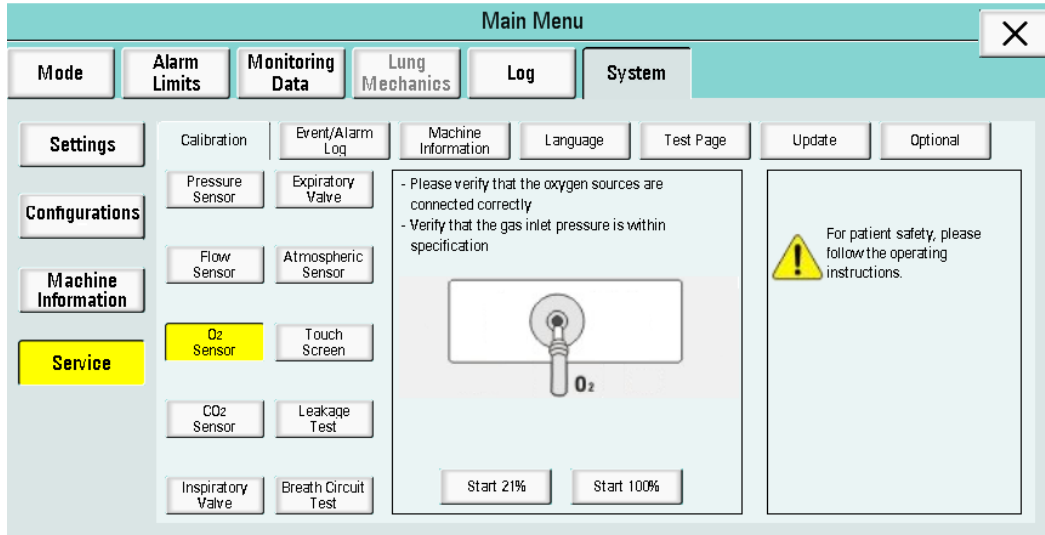

Figure 6-64
(3) O₂ Sensor Calibration: Click “O₂ Sensor” to enter the interface. A message displayed: “Please verify that the oxygen source are connected correctly. Verify that the gas inlet pressure is within specification.” A legend will also be shown. There are two buttons below the legend: “Start 21%” and “Start 100%”. Choose the needed one and click, as shown in Figure 6-64. The remaining procedure is the same as described above.